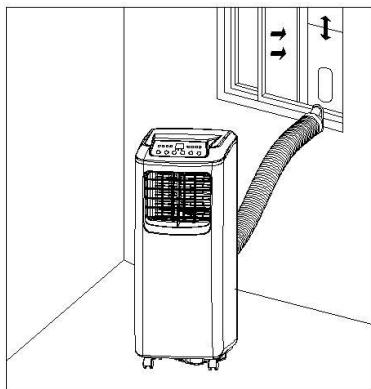

Figure 8
2). Snap the flat end of the heat exhaust hose end connector into the elliptical hole of the window frame adaptor board assembly as shown in Figures 8 and 9.